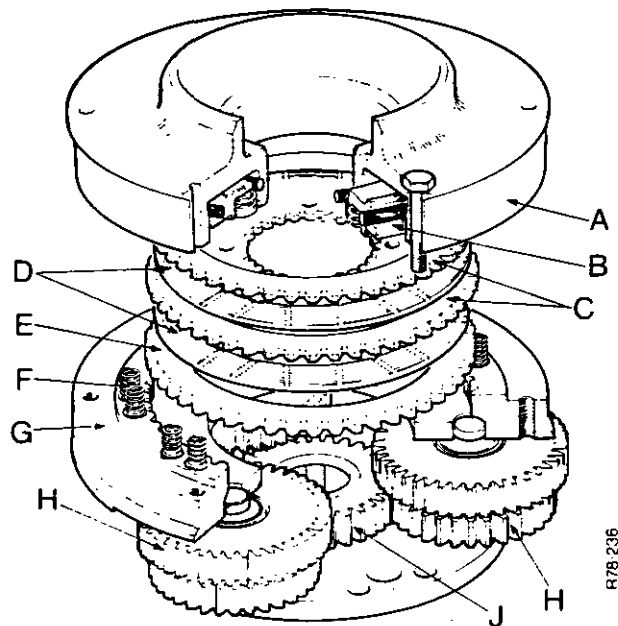

FIGURE 49 PLANETARY UNIT LOCK-UP CLUTCH
51. Install the thick clutch plate into the carrier unit, see figure 49.